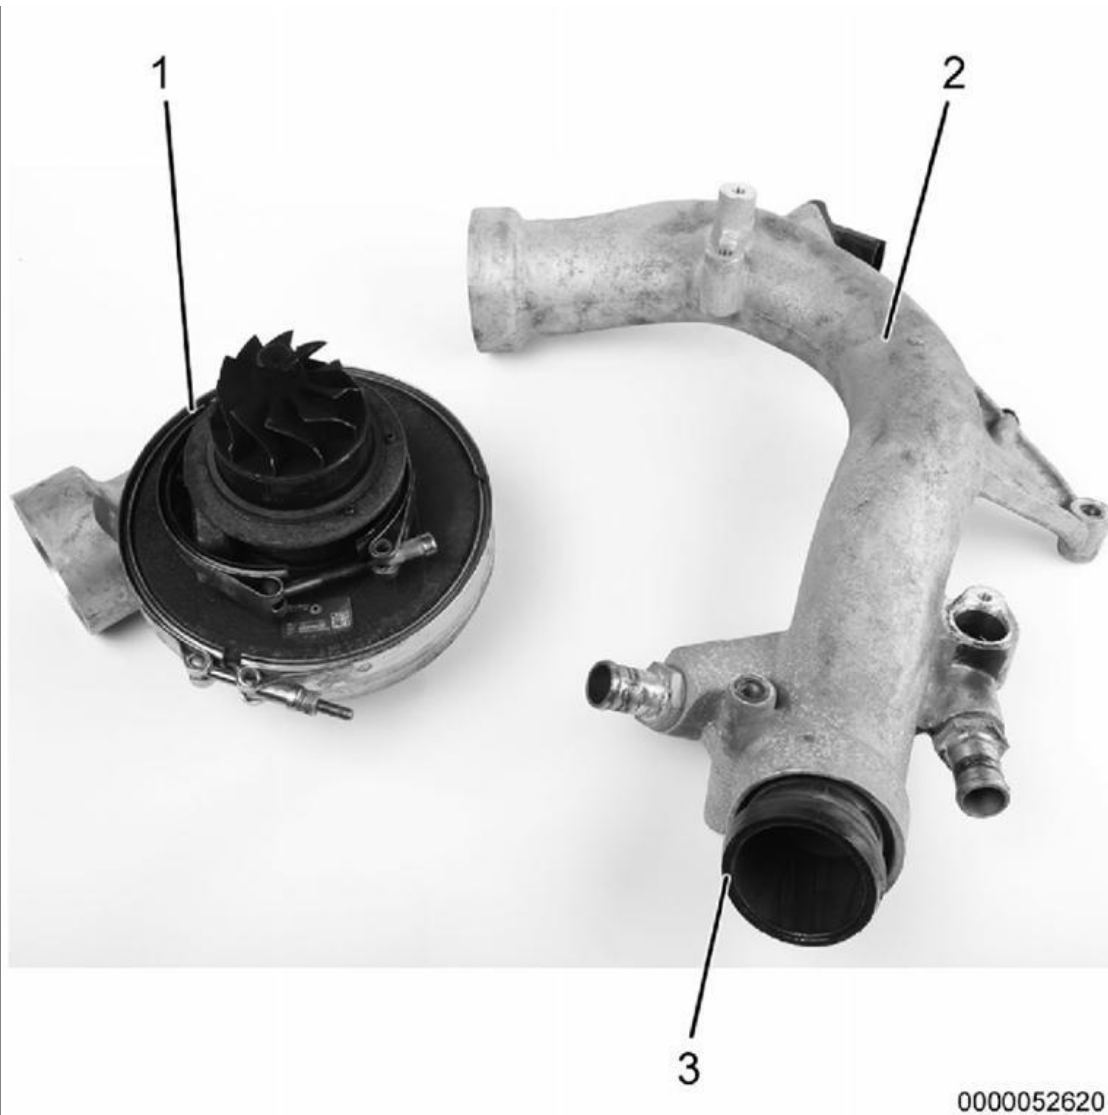

Figure 7: HP Turbo Center Cartridge and Air Inlet Duct.
3. Install new HP turbocharger center cartridge (Figure 7, Item 1) into turbine housing and let it rest freely.
5. Install new 72.2 x 60 (DMR) tube seal (extension tube) (Figure 7, Item 3) to HP turbocharger air inlet duct (Figure 7, Item 2).